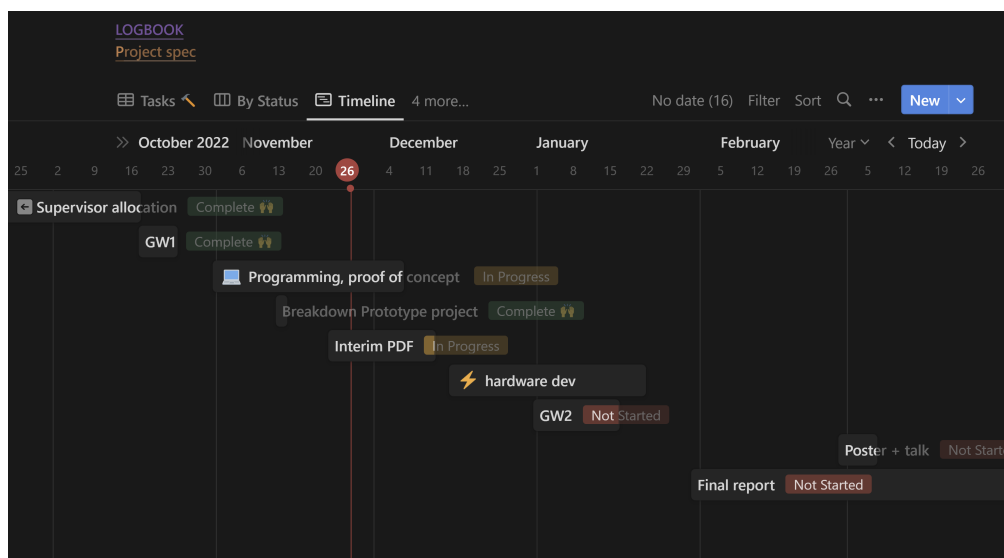

Figure 1: Notion status view
Where to go now? Once this report is complete, I can focus on merging the RFID and servo code. Then perform tests and experiment with sleep functions to reduce current draw. Finally I will start PCB hardware development like the gantt chart recommends. [Fig. 1]
**Timeline view** is where the Gantt chart is located. It uses a database property called Timeline, when you create a new task, add the timeline property with the start and end date of the section. Then the program automatically populates the timeline view with the database to produce the Gantt chart. [Fig. 1]